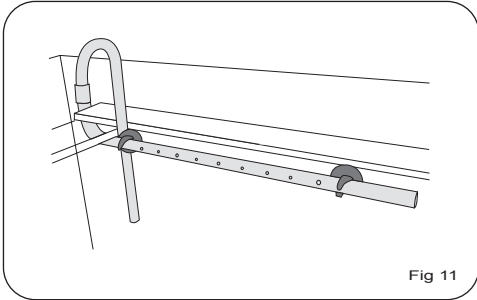

Fig 11
22. Place the suction caps on the spray bar or duck bill then attach it to the back or side of the aquarium. Fig 11